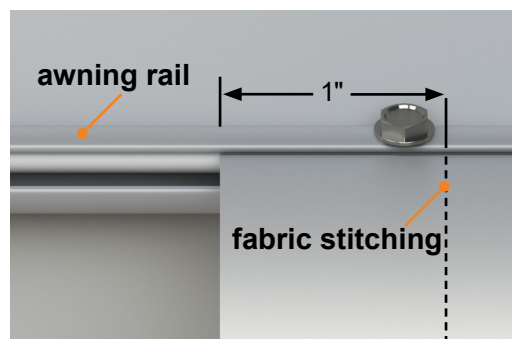

Fig.8
3. Install the screw down through the awning rail into the fabric and the polycord (Fig.8).